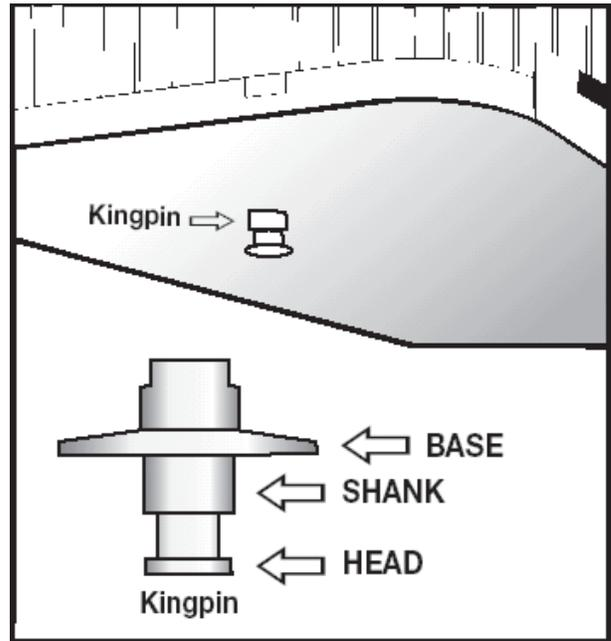

Figure 6.8
- Locking jaws around the shank, not the head of kingpin. See *Figure 6.8*.